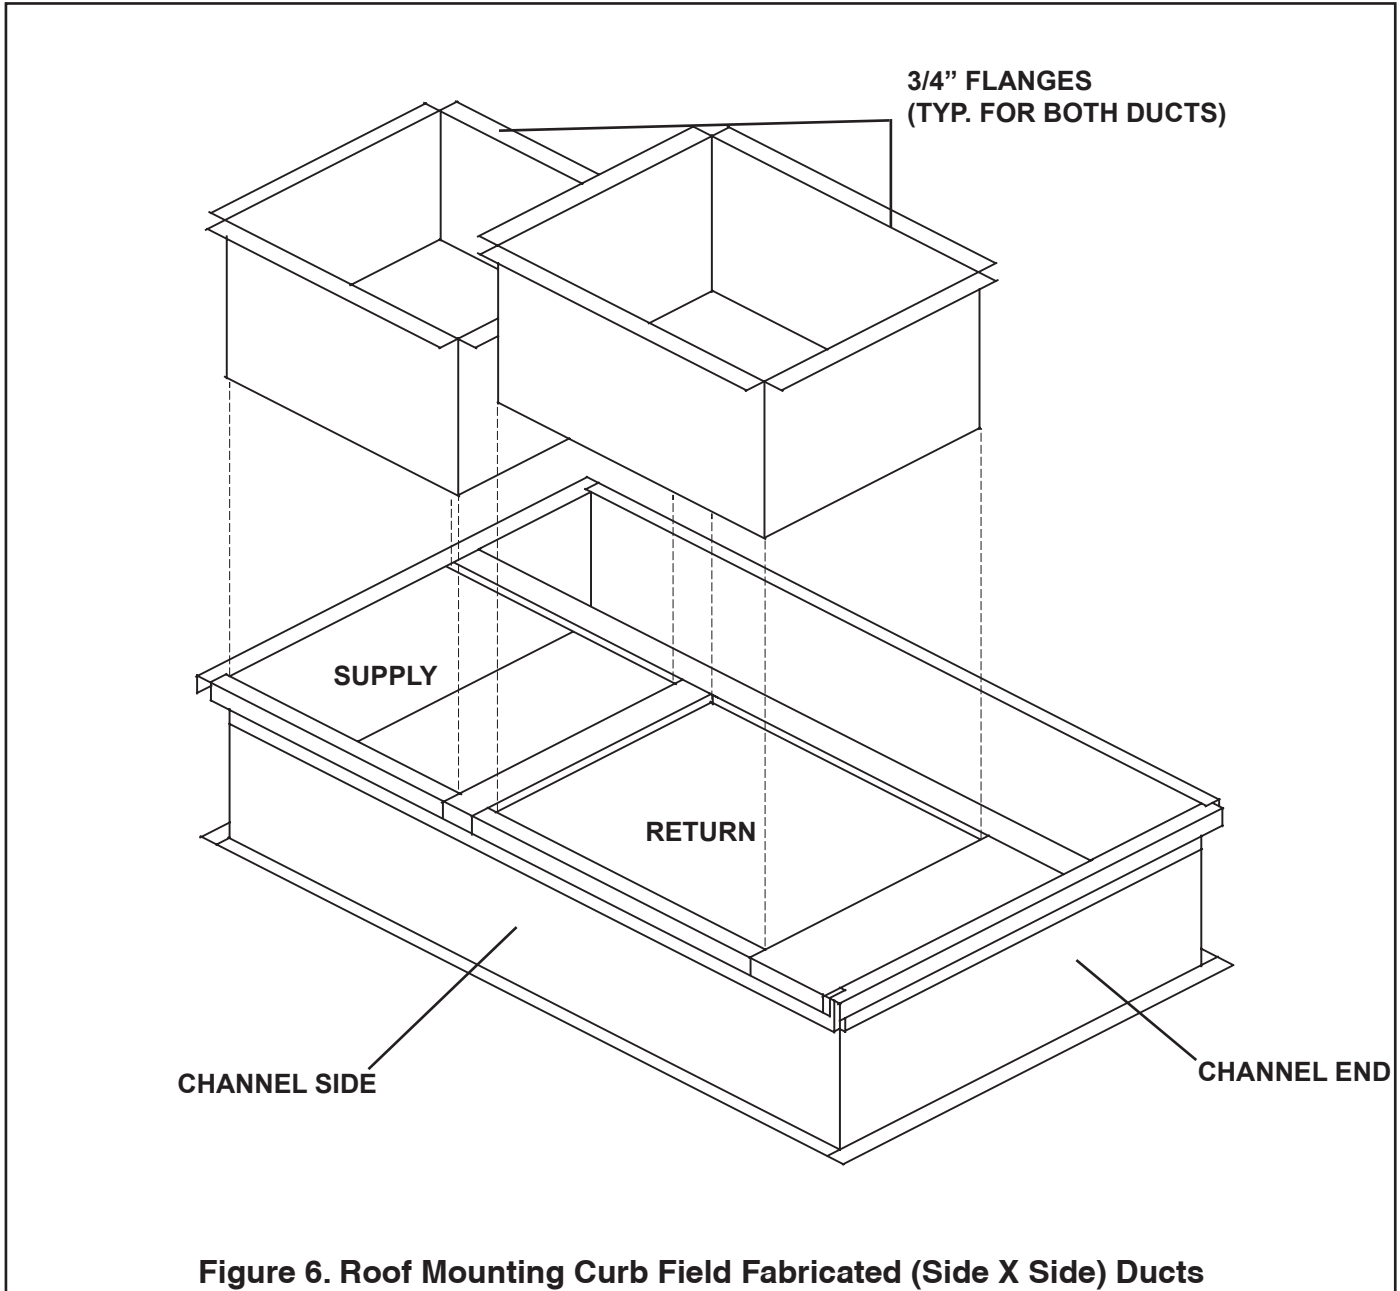

**Figure 5. BAYCURB050 Cross-sectional View**
**IMPORTANT:** The BAYCURB050 does not have insulation on inside perimeter of curb. To prevent condensation from forming on the inside surface of the curb, insulate and seal the outside surface of the curb as illustrated in Figure 5, page 5. If the roof deck is removed or omitted from the entire inside area of the roof curb, insulation should be secured to the bottom of the unit base pan to prevent condensation from forming on the bottom of the base pan. Insulate the bottom of the condenser section of the unit base pan after the unit has been placed on the curb. Glue a 1" thick foil covered fiberglass duct board or equivalent to the bottom of the unit base pan, with foil side out. Use a good commercial grade of glue - not water based glue.